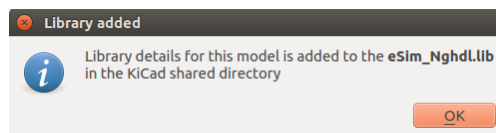

Figure 10.4: Uploading of digital model
2. Now browse and locate the VHDL file to upload. Select the VHDL file and click on the Upload button. This process will create Ngspice model and corresponding component drawing inside the KiCad library (eSim.Nghdl.lib) of the VHDL block to be used in mixed-signal simulations. An acknowledgement message will appear upon successful processing of the VHDL code as shown in Fig. 10.4.